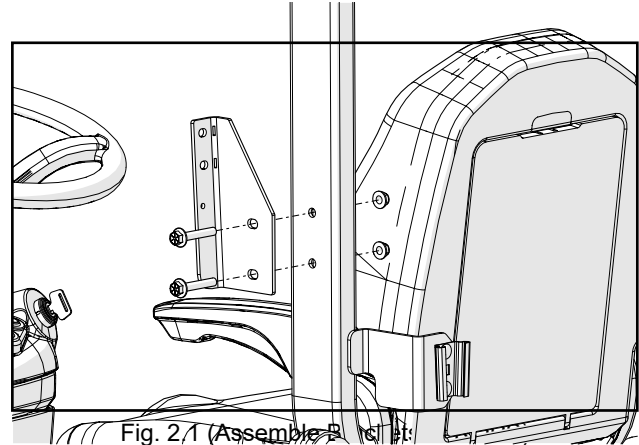

Fig. 2.1 (Assembly ROPS Bracket)
- 2.1** Install the left ROPS Bracket onto the outside of the ROPS through the holes shown. See Figure 2.1. Leave just loose enough for adjustment.